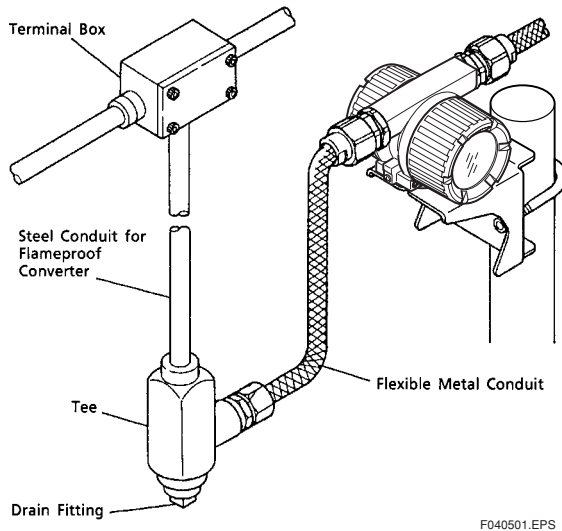

Figure 4.9
- (1) Lay wiring as far as possible from electrical noise sources such as large transformers, motors and power supplies.
- (2) It is recommended that crimp-on type solderless lugs be used for large wire ends.
- (3) For general use, it is recommended that conduits and ducts or racks be used to protect wiring from water or mechanical damage. A rigid steel conduit or flexible metal conduit is recommended. See Figure 4.9.